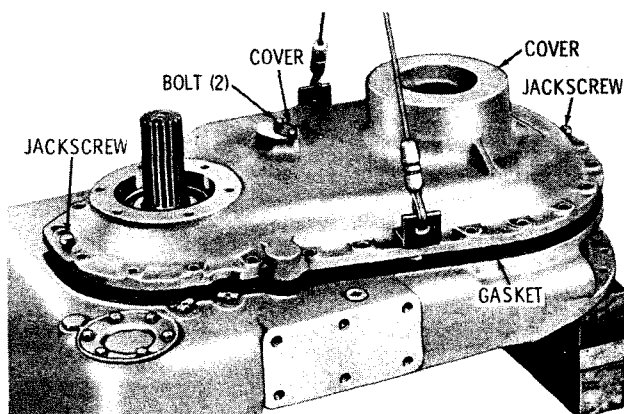

Fig. 5-43. Removing transfer gear housing cover
(9) Remove 26 bolts and lock washers which retain the transfer gear housing cover. Install two of the cover bolts as jackscrews, and tighten them to loosen the cover (fig. 5-43). Remove the cover and remove the jackscrews from the cover. Remove the cover gasket. Refer to paragraph 6-23 for cover assembly rebuild procedures.